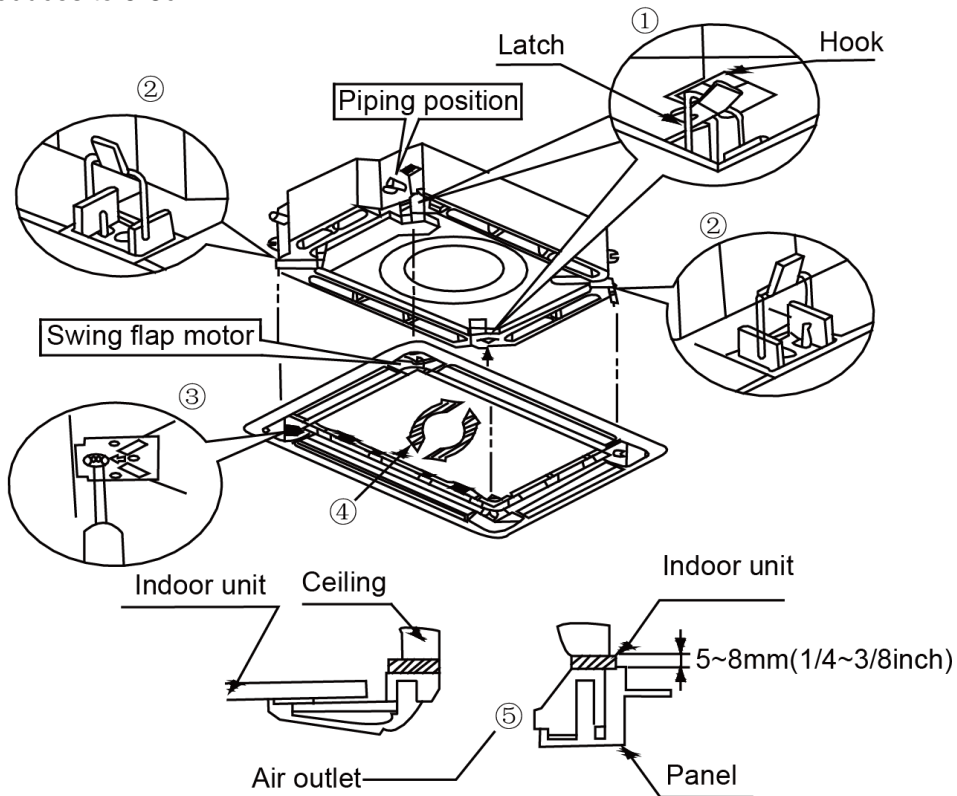

Figure 3-1-31
- (2) Place the panel at the unit, and latch the hooks beside and opposite the swing flap motor.
- (3) Latch other two hooks.
- (4) Tighten four hexagonal screws under the latches about 15mm.
- (5) Adjust the panel along the direction indicated by the arrow as shown in Figure 3-1-31.
- (6) Tighten the screws until the thickness of the sealing material between the panel and the indoor unit reduces to 5-8mm.